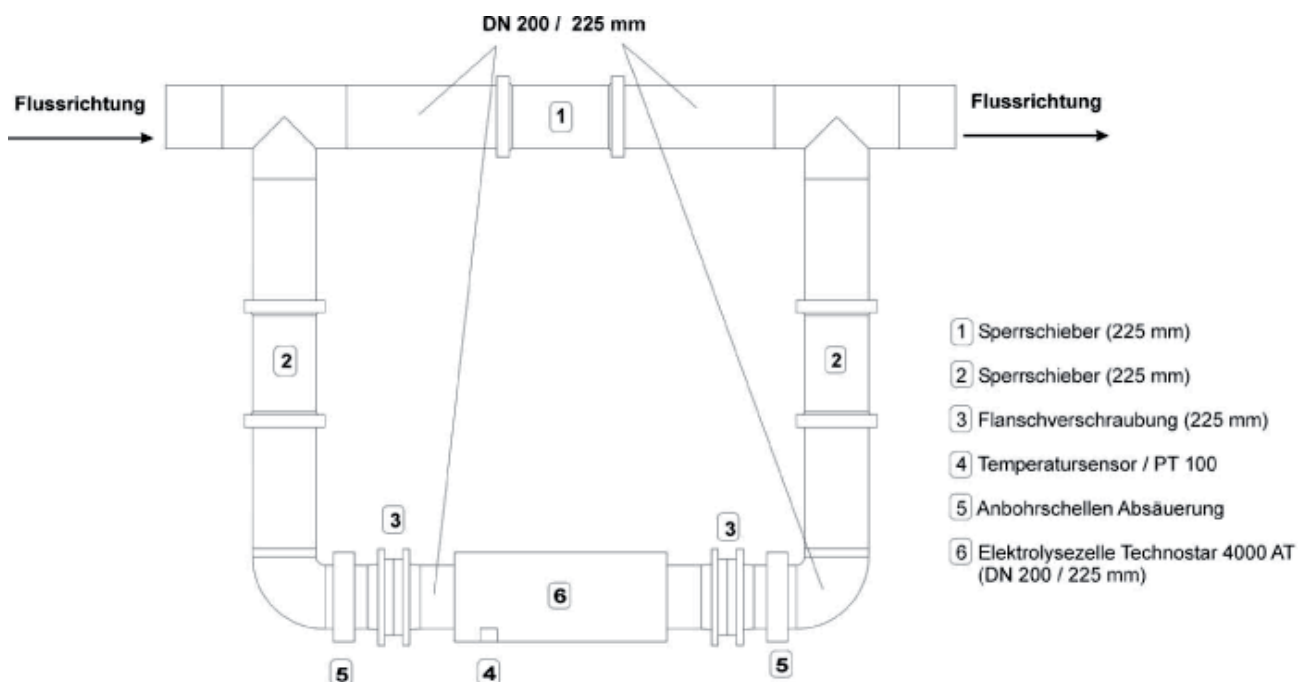

Fig. 6-3: System with the electrolysis cell of the Technostar 4000 AT system
- The numbers in brackets indicate the position numbers in Figure 6-3.
- Open up the stop valve of the clean water line (1).
- Close the stop valves in front (2) and behind (3) the electrolysis cells.
In Fig. 6-4 the ball valve (5) is identical to the ball valve (5) in Fig. 6-3. The ball valve (6) in Fig. 6-4 is used to drain the water. After the electrolysis cell has been emptied it has to be closed again without fail.
- Then close ball valves (4) and (5) again as per Fig. 6-3. Carefully check that the ball valves are closed.
- Now open the stop valves (2) and (3) again as per Fig. 6-3.